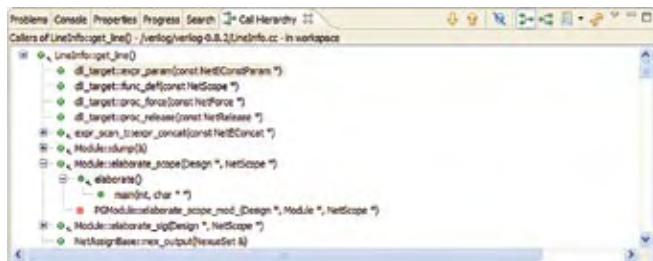

Figure 3
- **Enhanced index information:** The CDT team has enhanced the captured index information to enable new navigation and source code analysis views. The Call Hierarchy View (Figure 3) allows navigation between functions and the functions that they call or are called by. The Include Hierarchy View allows navigation between files based on inclusion relationships, and the Type Hierarchy View can navigate between C++ classes based on inheritance relationships.